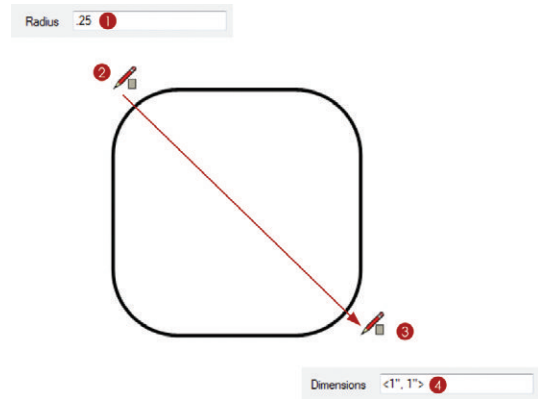

Figure 13.31 Draw a rectangle with rounded corners to start the detail callout.
1. Activate the Rectangle tool, set the stroke width to 1, and turn off the Fill. Press the Up arrow key to switch to a rounded-corner rectangle and immediately type a precise radius of **.25**, then press Enter (Figure 13.31).